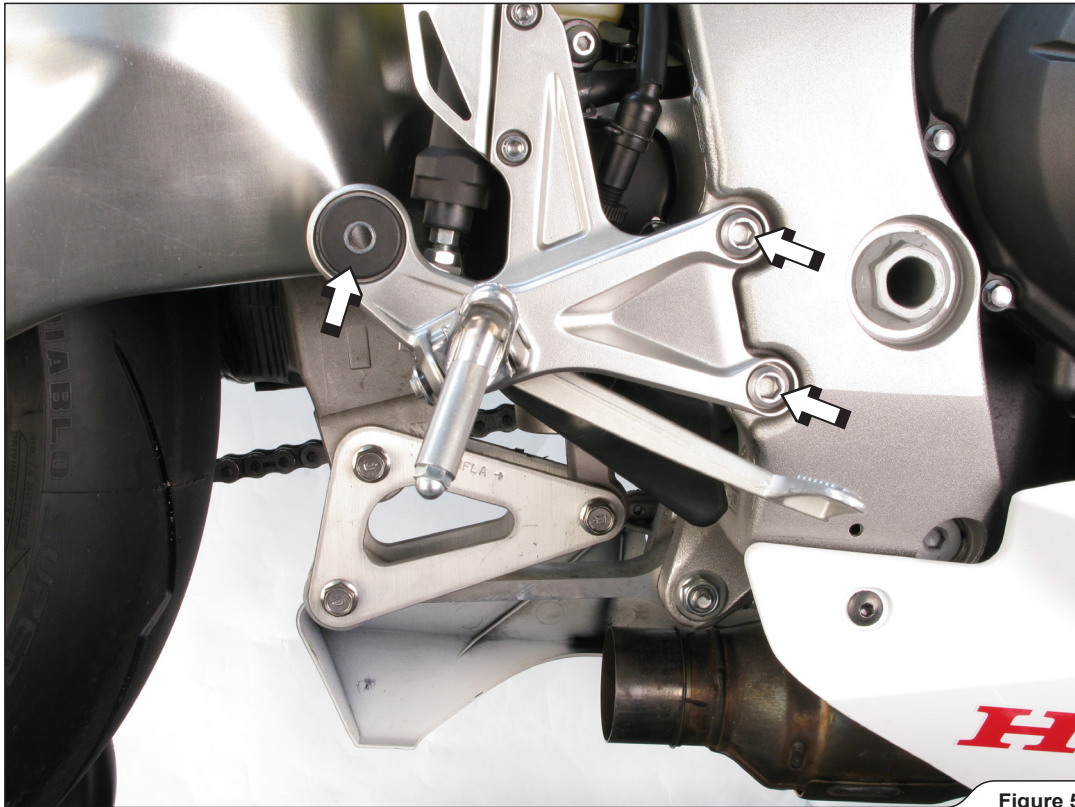

Figure 5
6. Remove the marked rubber dampers and the metal collar from the muffler's bracket and unscrew the footrest bolts (Figure 5, 6).